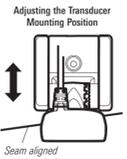

Figure 29
7. Adjust the transducer assembly vertically, until the seam on the leading edge of the transducer (the edge closest to the transom of the boat) is level and just slightly below the hull (Figure 29).